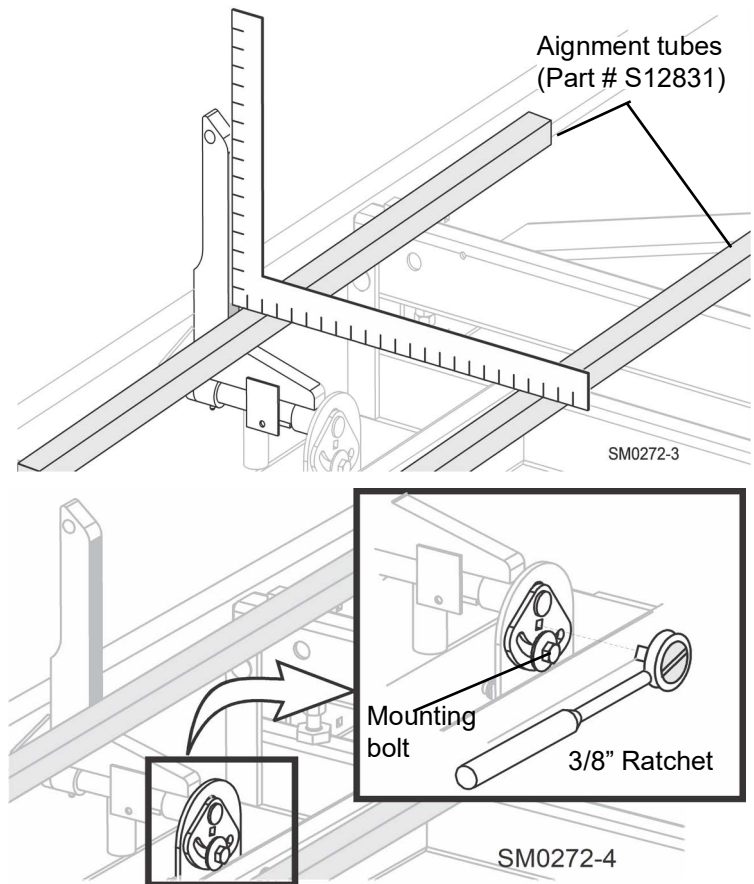

FIG. 7-14
13. Use a 3/8" ratchet to rotate the pin until the side support is square to the bed. See FIG. 7-14.